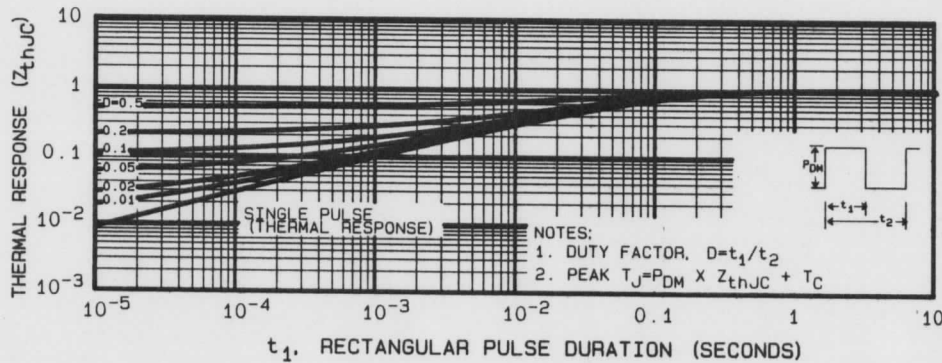

Fig. 5 — Maximum Effective Transient Thermal Impedance, Junction-to-Case Vs. Pulse Duration
① Repetitive Rating; Pulse width limited by maximum junction temperature (see Figure 5) Refer to current HEXFET reliability report
② $I_{SD} \leq 10A, di/dt \leq 120A/\mu s, V_{DD} \leq BV_{DSS}, T_J \leq 150^\circ\text{C}$ Suggested $R_G = 9.1\Omega$
③ K/W = $^\circ\text{C/W}$ W/K = $W/^\circ\text{C}$
④ @ $V_{DD} = 50V$, Starting $T_J = 25^\circ\text{C}$, $L = 9.1 \text{ mH}$, $R_G = 25\Omega$, Peak $I_L = 10A$.
⑤ Pulse width $\leq 300 \mu s$; Duty Cycle $\leq 2\%$